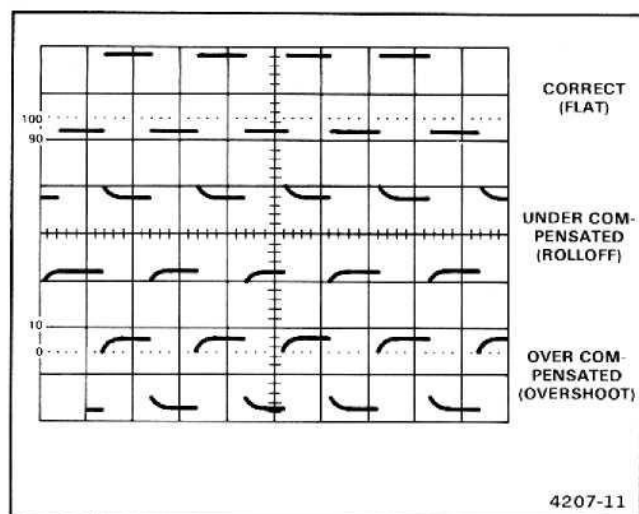

Figure 2-9. Probe compensation.
5. Check the waveform presentation for overshoot and rolloff (see Figure 2-9). If necessary, adjust the probe compensation for flat tops on the waveforms. Refer to the instructions supplied with the probe for details of compensation adjustment.